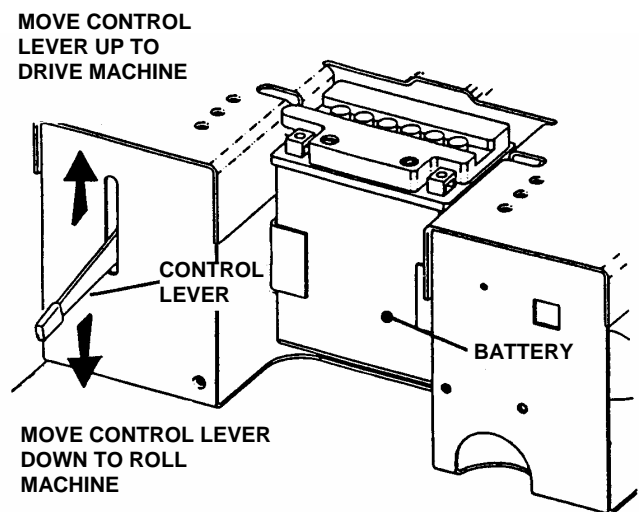

FIGURE 2.4
**IMPORTANT:** To roll the machine without the engine running, pressure within the hydraulic pumps must be released. Tilt seat up and move control lever down to release pressure. NOTE: Control lever must be in the "UP" position to drive machine. See Figure 2.4.